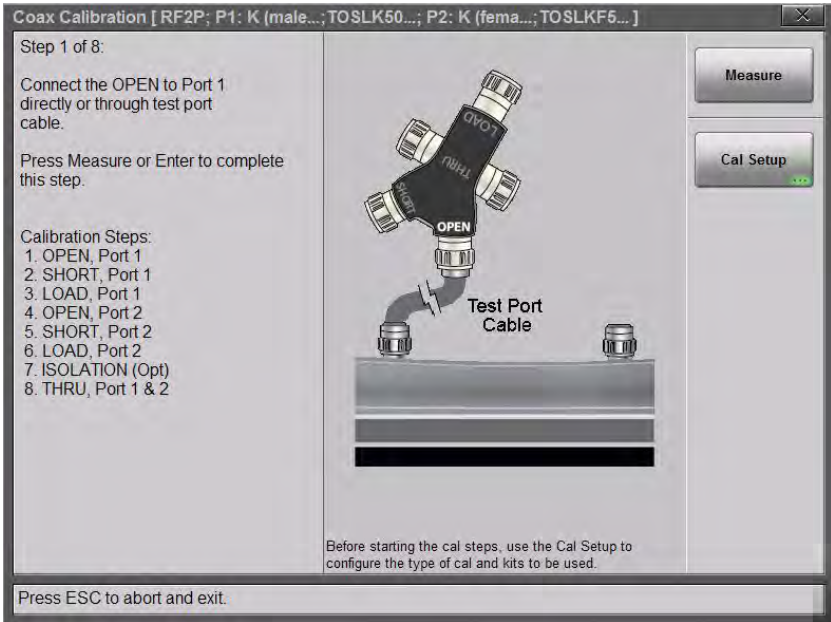

Figure 7-11. Calibration Dialog Box for Coax
5. Press **Measure** and follow the on screen instructions (see Figure 7-11 on page 7-18).
Figure 7-11 shows the Calibration dialog box illustrating calibration setup and calibration steps. On-screen instructions are given for each step.